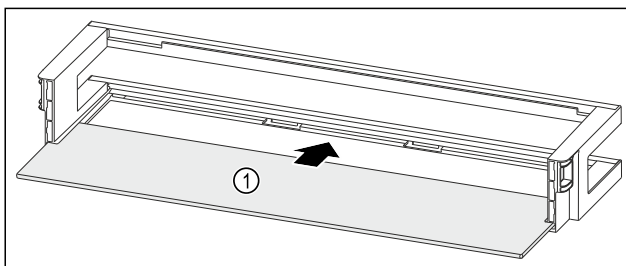

Fig. 99 Door rack with shelf
- Push the shelf Fig. 99 (1) into the side recesses.